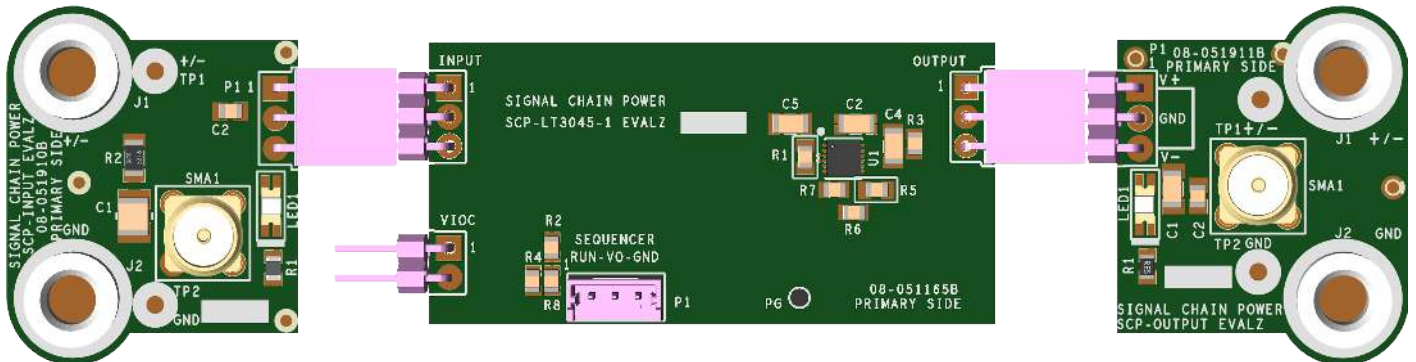

Figure 2. Proper Measurement Equipment Setup (Use SMA connectors for Measuring Input or Output Ripple)
2. Connect the SCP-INPUT-EVALZ and SCP-OUTPUT-EVALZ boards to the SCP-LT3045-1-EVALZ (refer to Figure 2) and connect the input board to a voltage source, V_{SOURCE} . Connect the output board to a voltmeter or dynamic load. Slowly raise the input voltage until the SCP-LT3045-1-EVALZ powers up into regulation and sweep V_{SOURCE} through the desired range of operation.